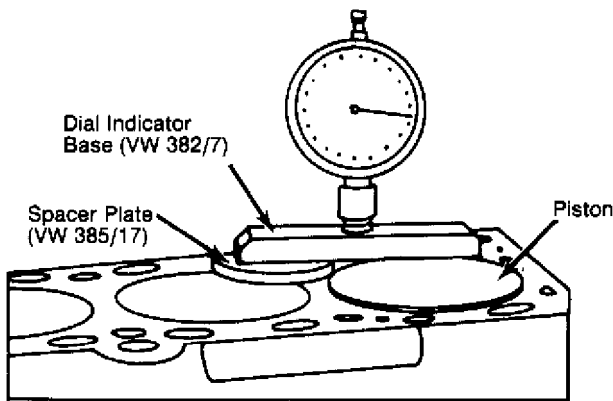

Fig. 1: Measuring Piston Projection
2) To determine proper head gasket, measure projection of piston above block at TDC. See Fig. 1. Select proper gasket from CYLINDER HEAD GASKET IDENTIFICATION table. Gasket must be installed with word "OBEN" ("TOP") facing up.